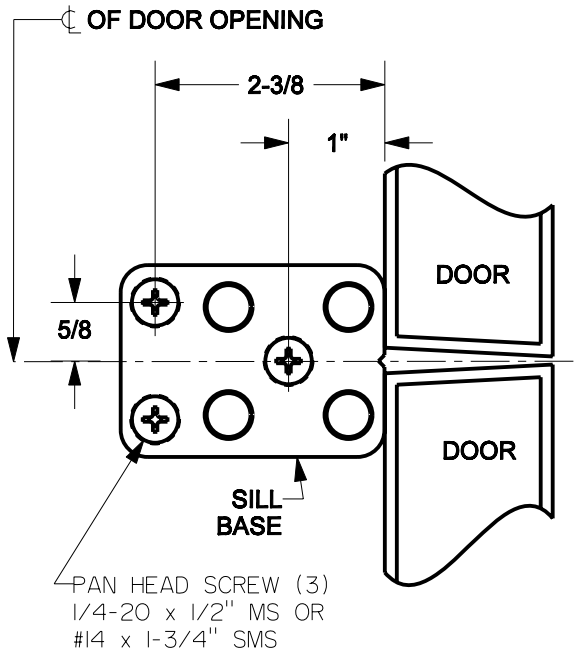

FIG 1A
1. Center **BOTTOM FITTING** between doors and flush with closed doors (FIG 1A) . Fasten in place with anchors and screws provided (FIG 1B).